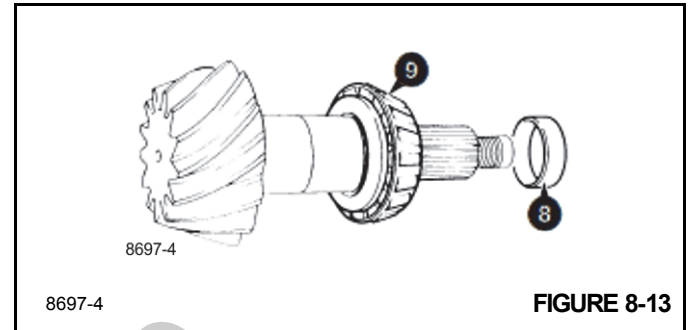

FIGURE 8-13
8. Remove and discard the pinion spacer (Figure 8-13).